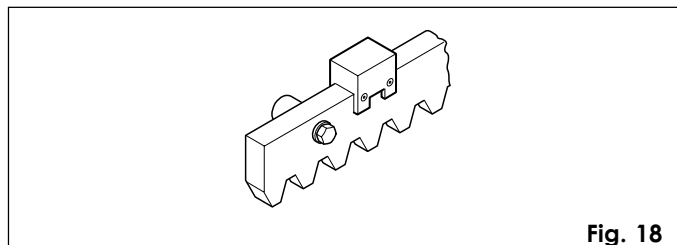

Fig. 18
- Position the magnets on the rack as shown in figure 18.